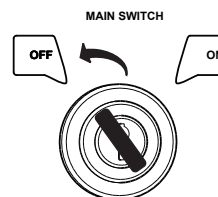

Figure 45. Main Switch (OFF Position)
5. Turn the main switch (ignition switch) key to the **OFF** position (Figure 45). Remove key and place in a safe location.